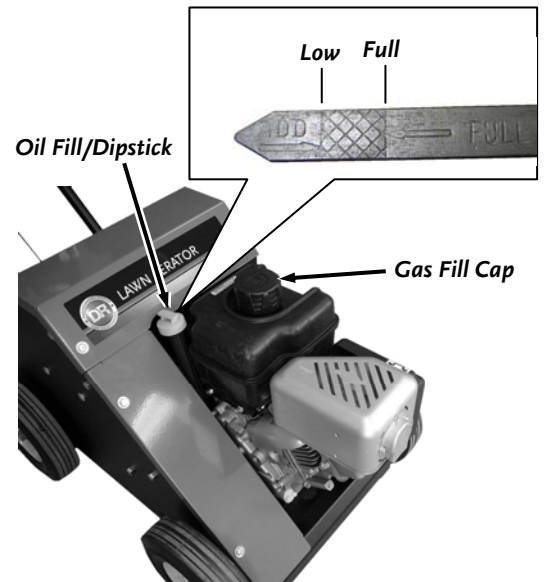

Figure 6
- Position the machine so the Frame and Engine are level. Remove the Oil Fill/Dipstick (**Figure 6**) and clean the end of it with a rag.